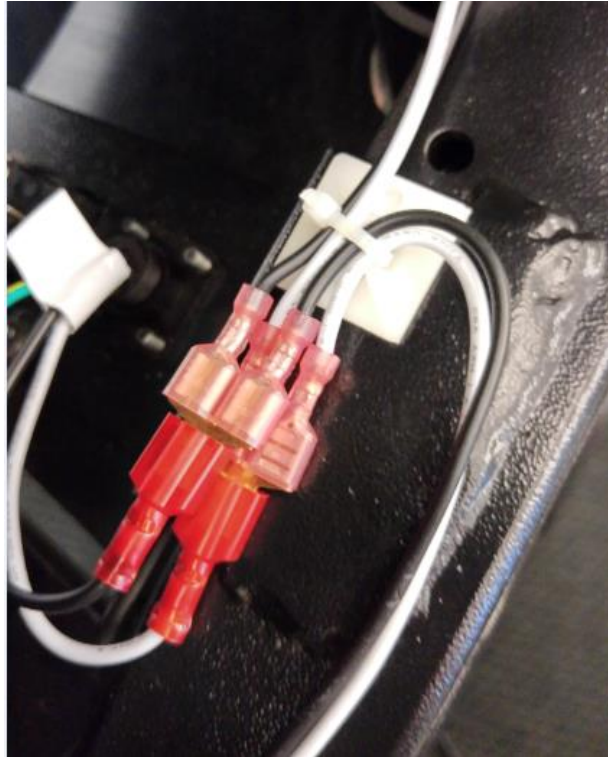

Fig. 6
7. Use the supplied ziptie to secure the wires to the wire mount (Fig. 6). Remember to clip off the ziptie tail and check to ensure all wires are properly routed away from all moving parts.